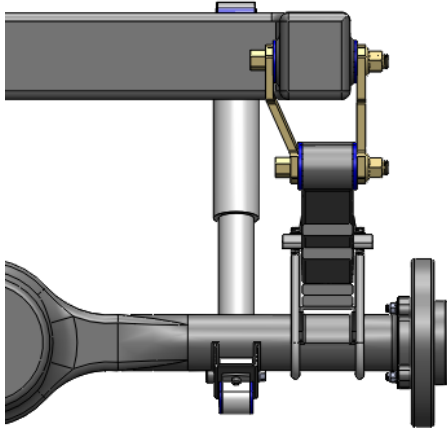
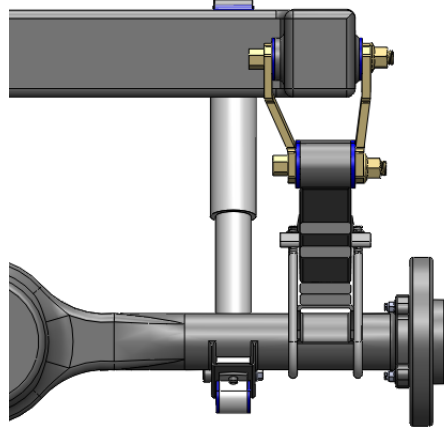

Figure 3: Nissan D40 Navara shackle orientation
Figure 4: 2011-on Ford Ranger/Mazda BT-50 shackle orientation
**Note:** The shackles for the Nissan D40 Navara and the 2011-on Ford PX Ranger/Mazda BT-50 are not symmetrical and must be installed in the vehicle as per the figure 3 and figure 4 below: